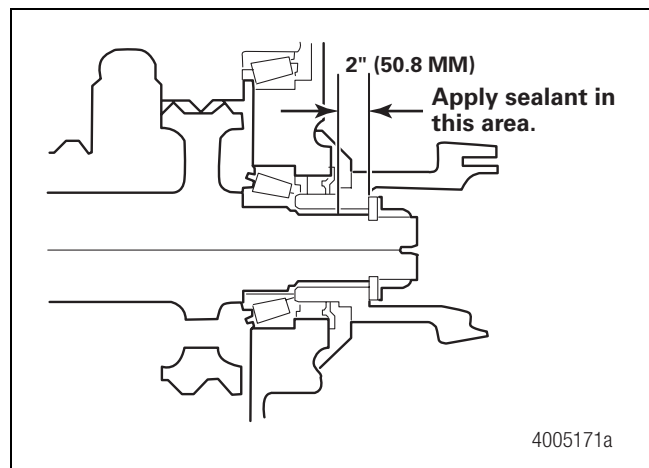

Figure 6.9
1. Before installing the yoke, clean the splines of old silastic. Apply a 1/8-inch (3.175 mm) bead of RTV 732 sealant 360 degrees around the outer two-inches (50.8 mm) of the yoke splines. Figure 6.9.